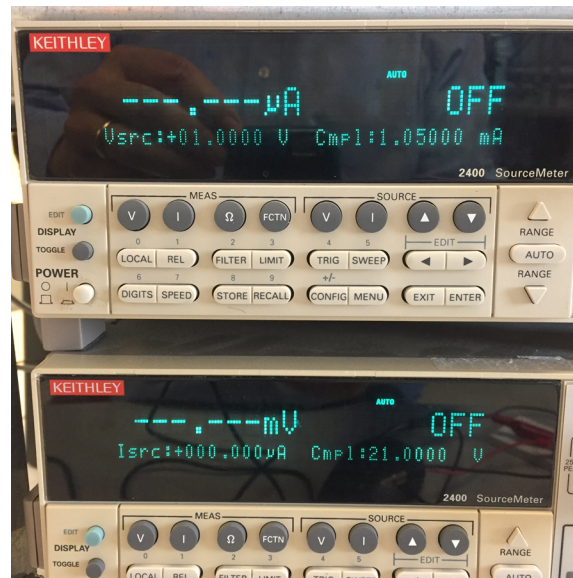

Fig. 5: Expected SMU readout
- (e) **Perform a Manual measurement of current from SMU1 (I_1) and across SMU 2 (V_2):** On SMU 1, push the “V” button under source, and then push the “edit” button. This should cause the left most digit (a zero) to blink. Use the left-right arrows under source to set the blinking digit to be just left of the decimal, and then use the up-down arrows to set it to “1”. Push the edit button again so that one of the digits next to “cmpl” is blinking. We want a current compliance of more than 105 μ A (the default) so push up arrow marked “range” which increase the maximum compliance by 10x, then push the “source” up arrow, to set the compliance to about 1 mA. The screen should look like Fig. 5. Now, on SMU 2, push the “I” button under source and the “V” button under measure. Since all we want to do is measure voltage, we don’t need to change anything else. Now push the “OUTPUT ON/OFF” button on each. A red or blue light should turn on (the color depends on the SMU). SMU1 should now be displaying how much current it is sourcing through your series resistors, and SMU2 should be showing you how much voltage is